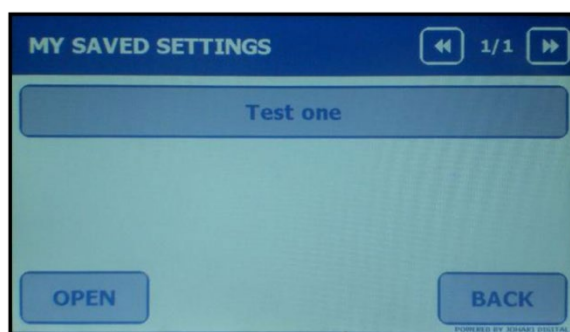

Figure V-14: FastPrep-24™ 5G [SAVED PROGRAMS] Menu Listing
2. Scroll through the pages using the   buttons until the program location is found \(Figure V-14\).